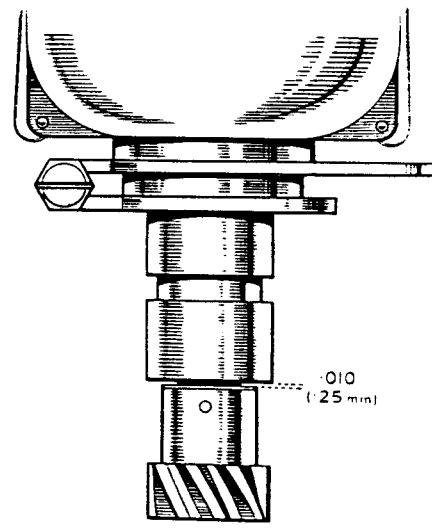

FIG. 18
8. **TRACTOR TYPE TE-20 ONLY.** Remove the driving gear which is pinned to the shaft (See Fig. 18).
#### Replacement of Driving Gear and Distributor Shaft TE-20 only, Fig. 18.
3. *TRACTORS TYPE TE-20 ONLY.* Replace the driving gear and pin in position (See "Replacement of Driving Gear" Fig. 18).